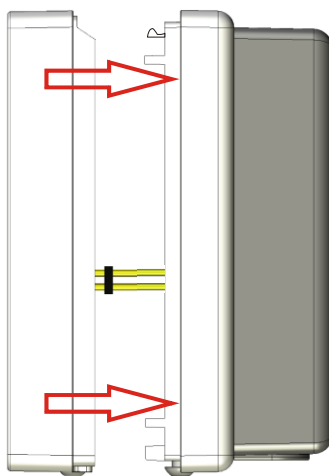

Fig. 4 Fitting of the housing cover
- Put the casing upper part straight onto its bottom part and snap it in. (see Fig. 4)
**Insert the pin board X1 of the Reader electronic carefully in the socket board X1 of the connection board (1)!**